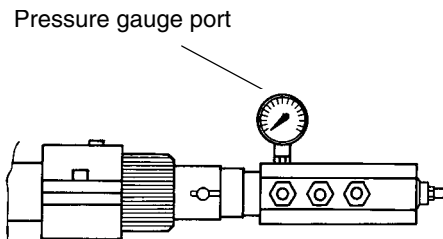

Fig. 30
- 9 the nozzle supply pressure is already factory-set and must not be changed. Only if necessary, adjust the supply pressure as follows (see related paragraph); insert a pressure gauge into the port shown on Fig. 30 and act on on the pump adjusting screw **VR** (see Fig. 29) as to get the nozzle pressure at 25bar (Fluidics nozzles - see diagram on page 35).